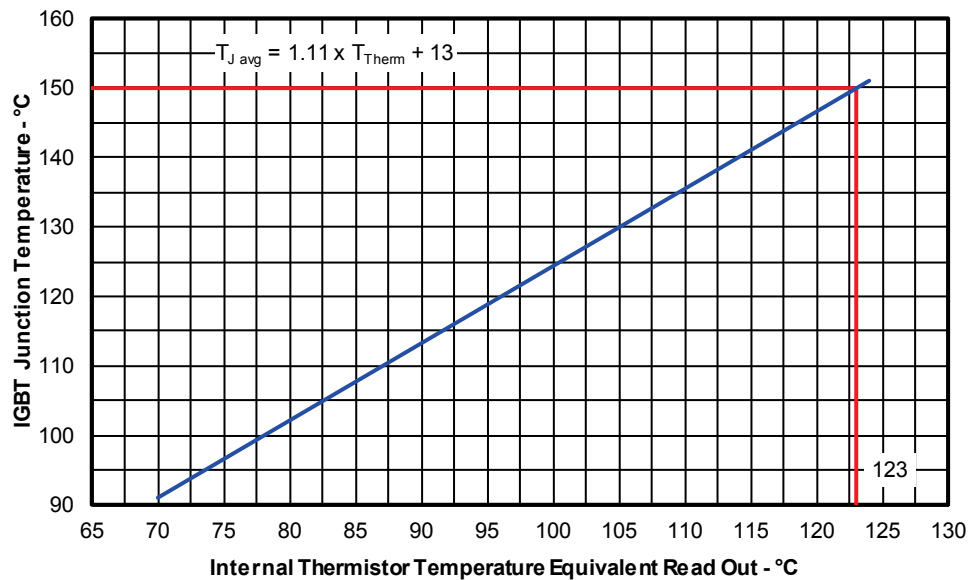

Figure 9. Estimated Maximum IGBT Junction Temperature vs. Thermistor Temperature
3. Value of the boot-strap capacitors depends upon the switching frequency. Their selection should be made based on IR design tip DN 98-2a, application note AN-1044 or Figure 9. Bootstrap capacitor value must be selected to limit the power dissipation of the internal resistor in series with the VCC. (see maximum ratings Table on page 3).